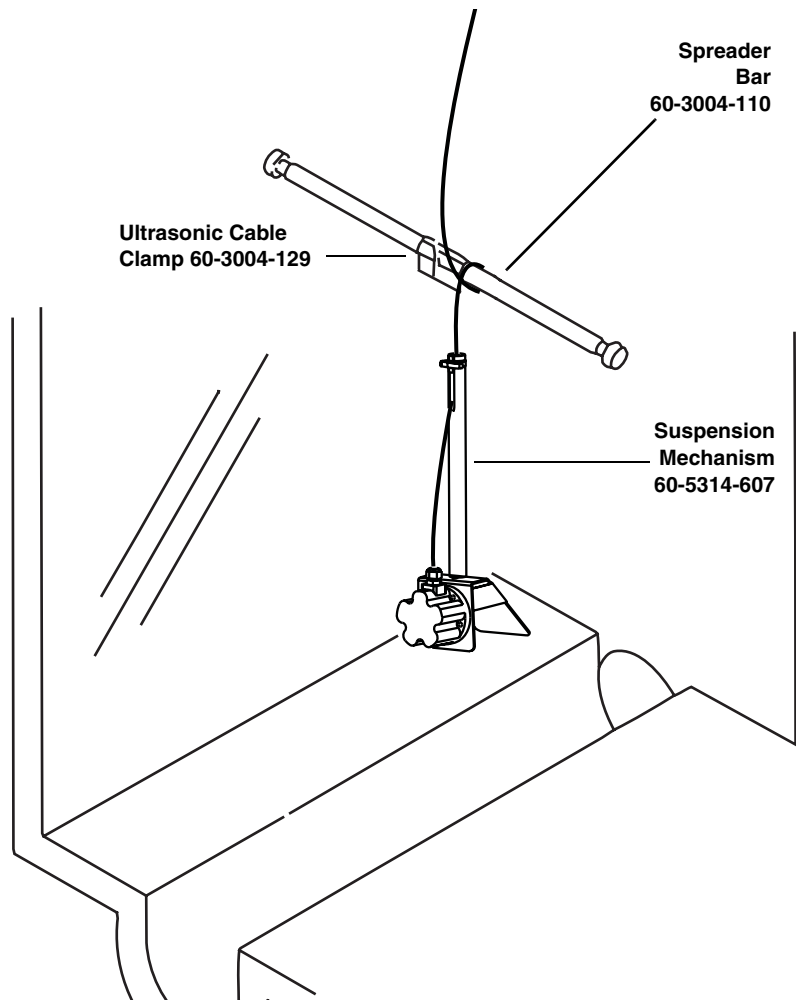

Figure 3-10 Suspension mounting of the USLS
3.5.2 Suspending the Sensor In a stable indoor environment, the Ultrasonic Level Sensor may be suspended over the flow stream from a stabilizer bar (Figures 3-10 and 3-11). The weighted cable straightener, available from Teledyne Isco, forces the sensor to hang plumb.